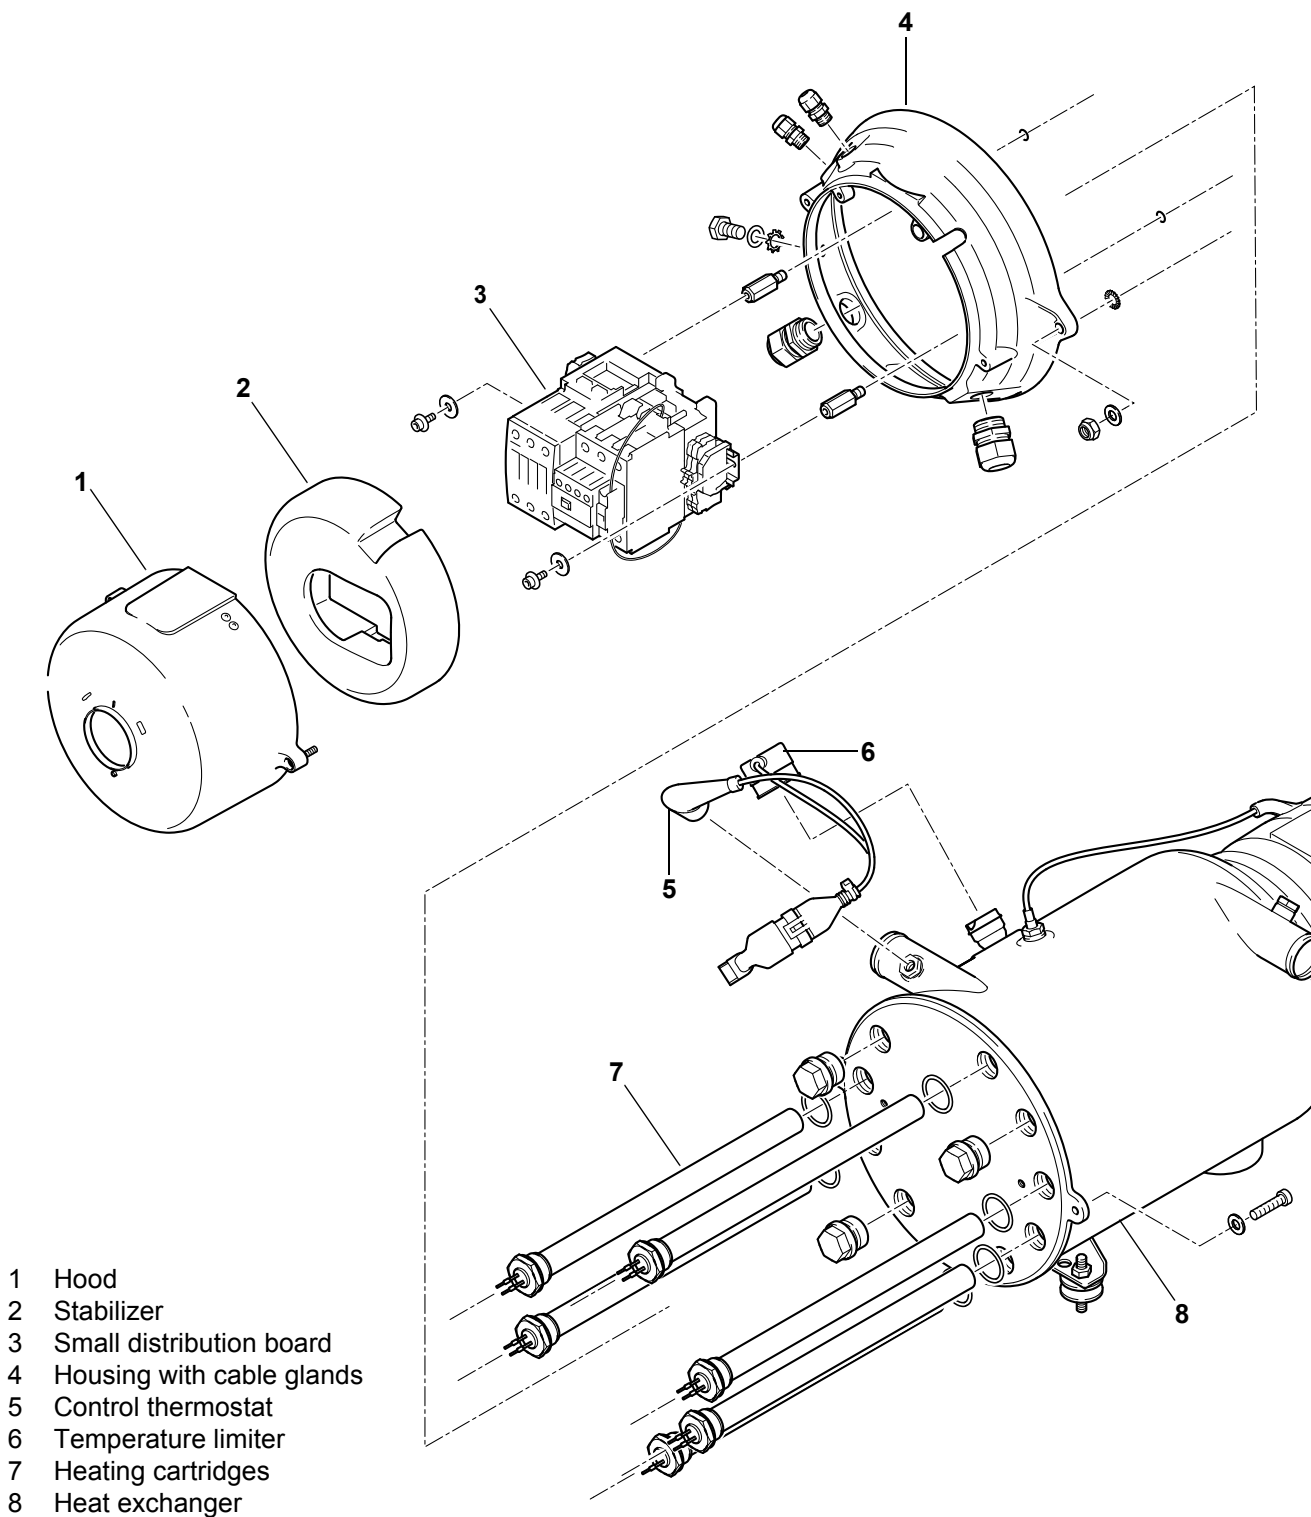

Fig. 302 HV control head / Small distributor board
The AC/DC control head (see Fig. 302) consists of an aluminum die-cast ring as housing (4) and the hood (1). Inside is a small distribution board (3) behind a stabilizer (2). The housing (4) is screwed to the heat exchanger (8).
The small distribution board (3, Fig. 302) includes the components required for the electrical part of the heater which are mounted on a 35mm top hat rail. The top hat rail is attached to the heat exchanger (8) via stud bolts.
At the end of the rod-shaped, water-proof heating cartridges (6, Fig. 302 and 7, Fig. 303) there is an external thread with a hexagon for screwing in and the electrical cables are led out.